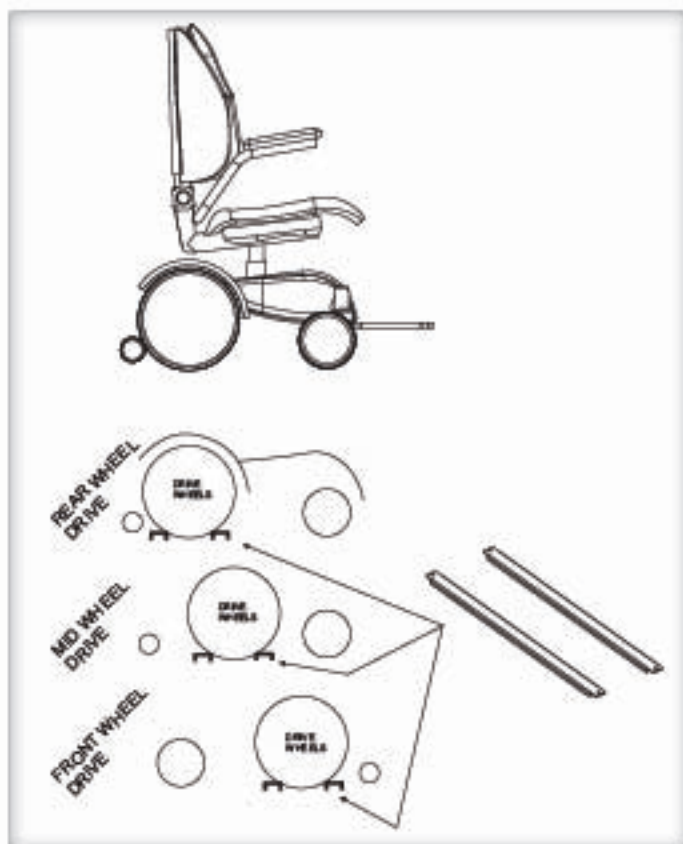

Figure 33-2
1. Estimate the chair's center position depending on driver's side or passenger's side entry preference. Locate the drive wheel's position. [Figure 33-2] Adjust the two main cradle positions to match. Capture smaller wheels on the two larger skins.